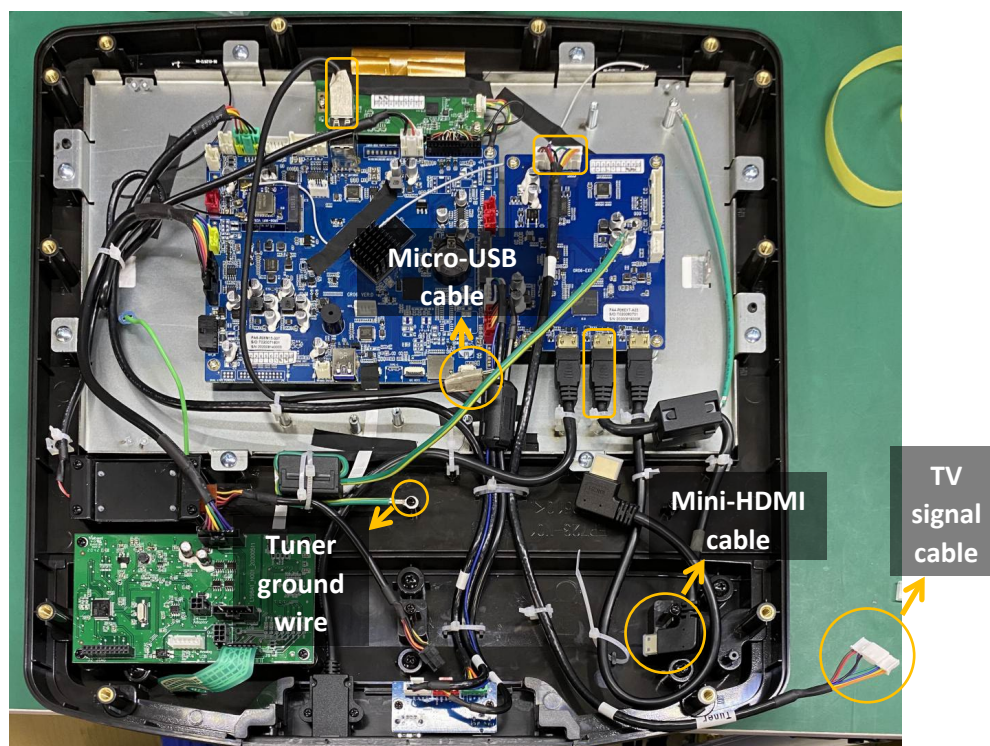

Figure 4
2. The wires for the tuner are preinstalled in the console. Locate the unconnected wires and gently pull them outside of the console cover (Fig. 4). **Note:** The SUR-600E console also has a tuner ground wire which is attached to the top left post for the tuner control board. The T600E console does not have a tuner ground wire.